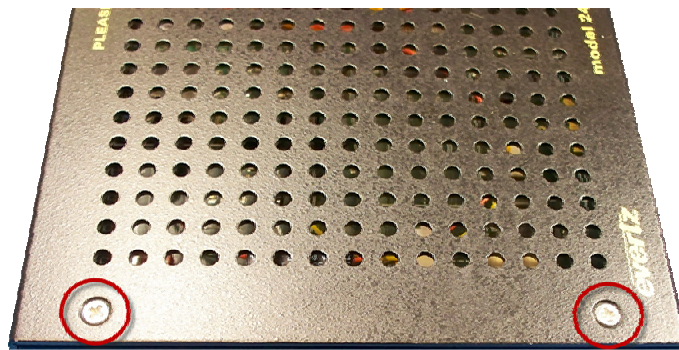

Figure 4-1: Identifying Top Screws
1. Locate the two screws on the top (near the front) of the 2408 unit, as shown in Figure 4-1.
2. Remove these two screws (highlighted in Figure 4-1 with red circles).